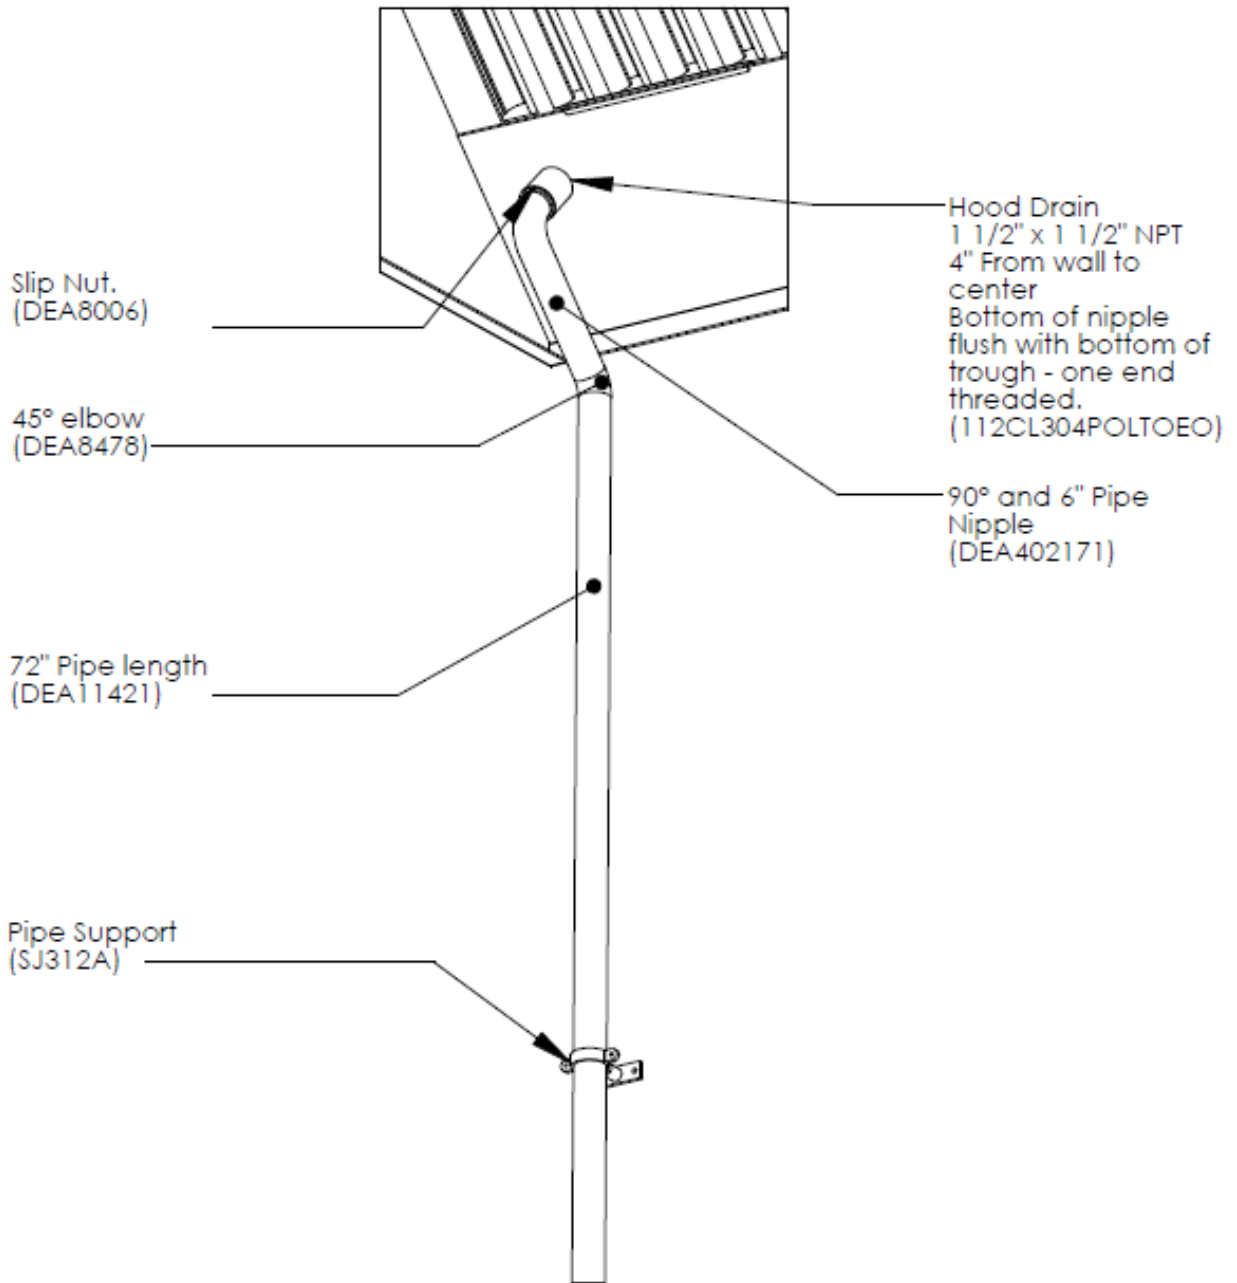

Figure 2
6. There is also a non-pressurized 1-1/2 inch drain connection that must be piped. This allows water to drain from the hood grease trough. It must be connected to the building grease trap. 30 inch tall hoods will have 2 drains and hoods 10 feet and longer will also have 2 drains. See Figure 2 for details.